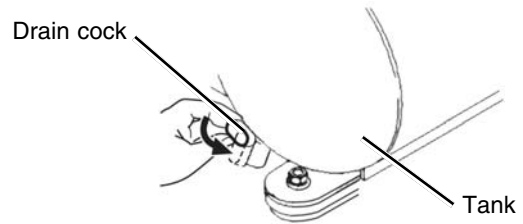

Fig.7
- (2) Unplug the plug from power source.
- (3) Open the drain cock located at the lower part of the tank (Fig. 7).
Drain tank daily or after 4 hours of use. Open drain cock and tilt compressor to empty accumulated water (Refer to Fig. 7).